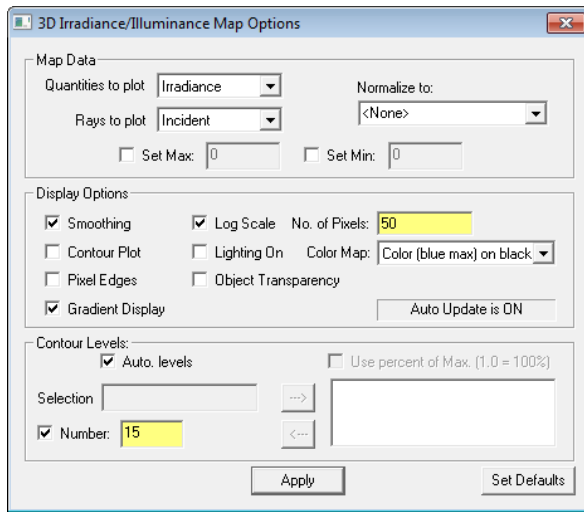

Figure 13 – 3D Irradiance/Illuminance Map with options set
3. Set the **3D Irradiance/Illuminance Map Options**, **Analysis | 3D Irradiance/Illuminance Options** as shown in the figure 13 below.